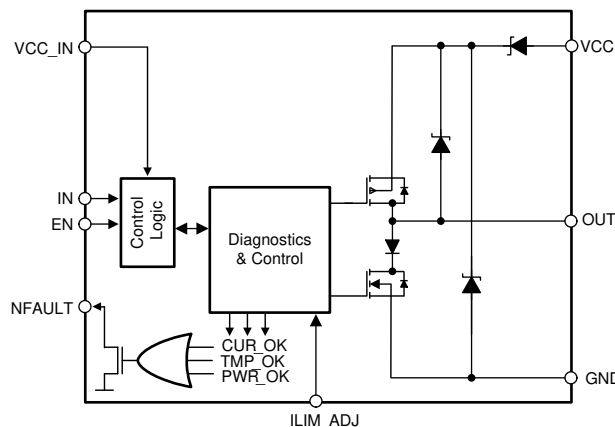

图 8-1. Block Diagram, TIOS101
图 8-1 shows that the device driver output (OUT) can be used in a push-pull, high-side, or low-side configuration using the enable (EN) and transmit data (IN) input pins. OUT can drive resistive, large capacitive or large inductive loads.